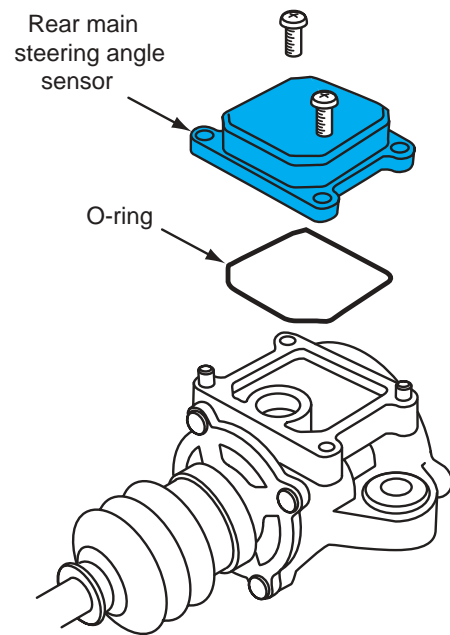

Figure 13-21 Removing the rear main steering angle sensor.
2. Remove the two mounting bolts in the rear main steering angle sensor, and then remove the sensor from the actuator housing (Figure 13-21). Note the position of the dowel pins, and discard the O-ring.